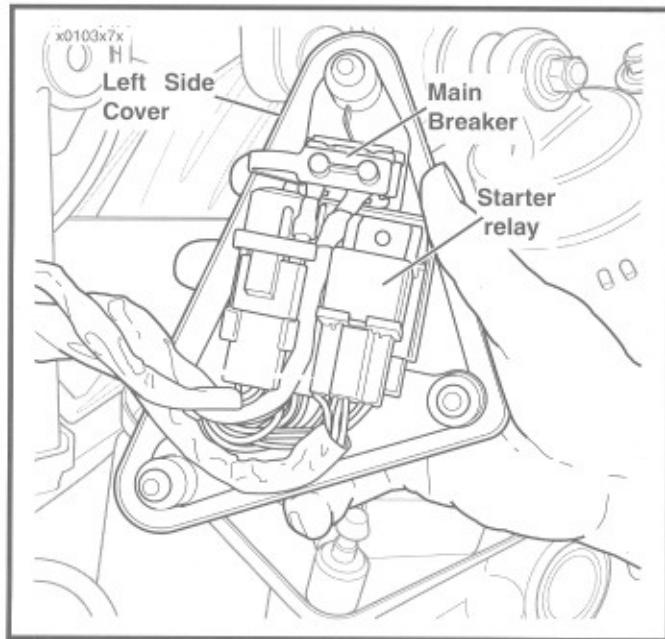

Figure 5-2. Starter Relay Location
2. See Figure 5-2. Locate the starter relay. The relay is located on the ignition bracket behind the left side cover. Unplug the relay connector.